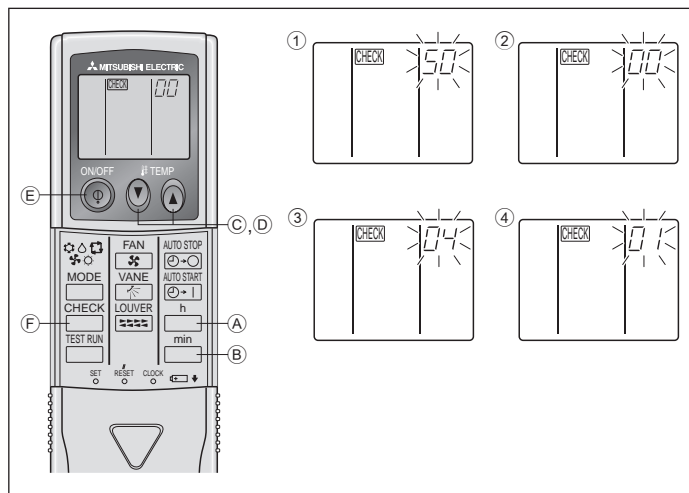

Fig. 6-9
2) For wireless remote controller (Fig. 6-9)